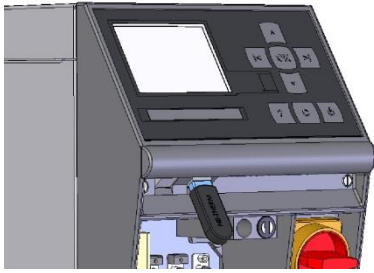

Fig. 90: Connect USB data carrier
2. Connect USB data carrier (Fig. 90).